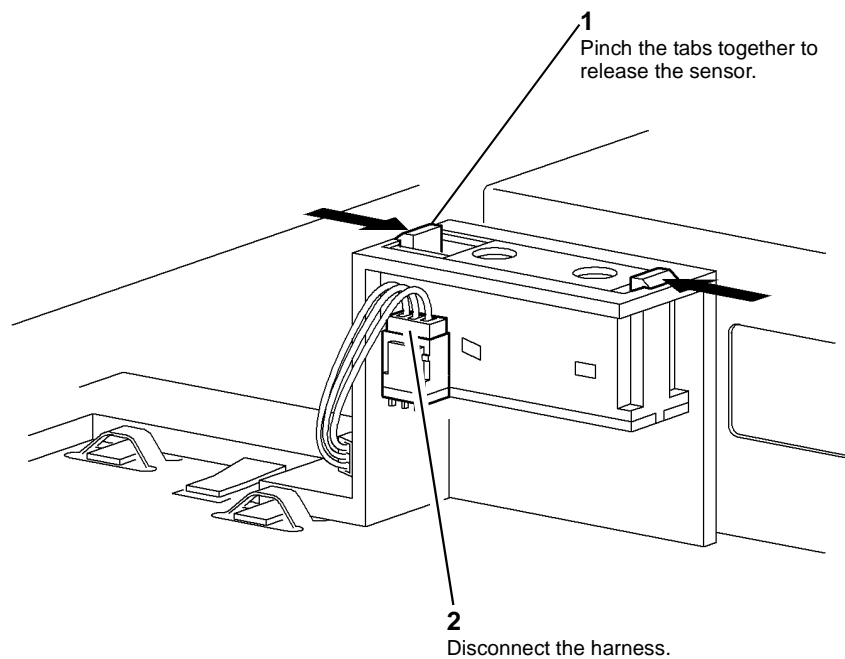

Figure 1 Document size sensor 1
3. Remove the document size sensor 1 and / or 2, Figure 1.
NOTE: Figure 1 shows document size sensor 1. The fastening for the document size sensor 2 is the same as for 1.